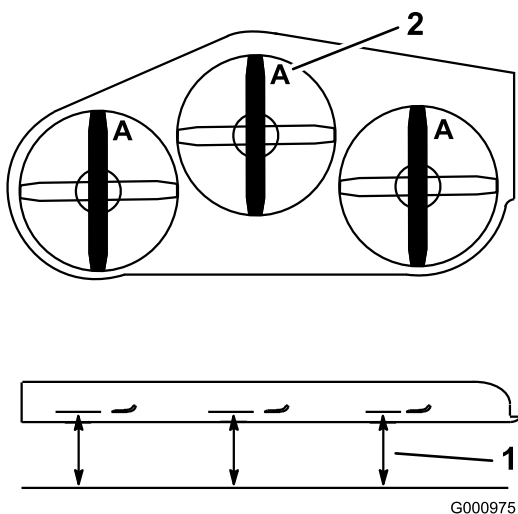

Figure 86
1. Rotate the blades until the ends face forward and backward (Figure 86). Measure from a level surface to the cutting edge, position **A**, of the blades (Figure 86). Note this dimension.